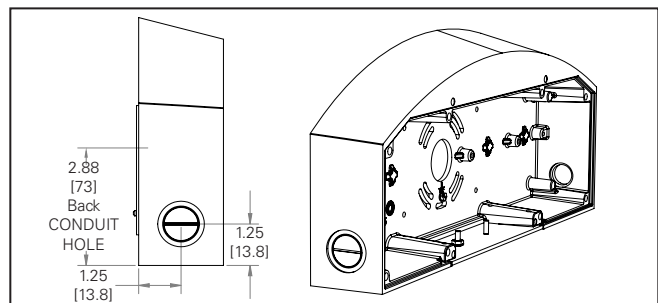

Figure 15.
6. Tighten the two ¼-20 Phillips head screws on the fixture to 20 in-lbs. (Figure 15.)
4. Pull in the power wires from the back of the BackBox or the side conduit holes (Figure 15).